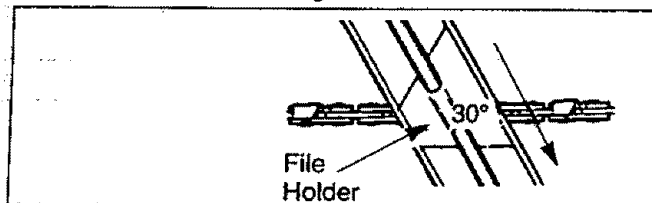

Figure 25
- Keep the 30° line on the file holder parallel to the center of the chain. Reverse procedure for other side. See Figure 25.